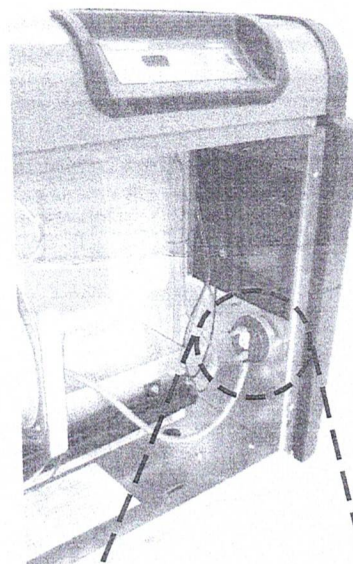

FIGURE 7
9. The vent pressure switches included with this kit are labeled based on heater model and altitude compatibility. Depending on your model and altitude, select the appropriate vent pressure switch, and install inside the heater using 2 #10 screws as shown in Figure 7. If you are refitting a heater with an FDXLKRK1xxx kit, you will need to drill these screw holes. If your heater is above 2,000 ft elevation, other high-altitude conversion steps may be necessary for proper heater performance. Refer to instructions in the heater installation manual and/or the instructions with the FDXLHAK1930 high-altitude kit.